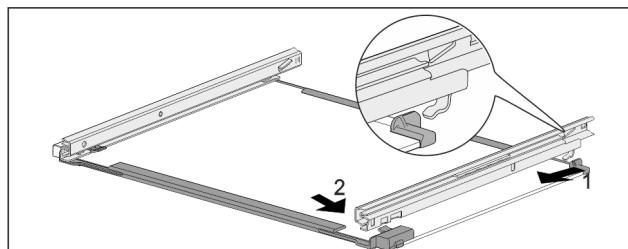

Fig. 160 Glass shelf with rails
- ▶ Hook in rail at the back. Fig. 160 (1)
- ▶ Hook in rail at the front. Fig. 160 (2)